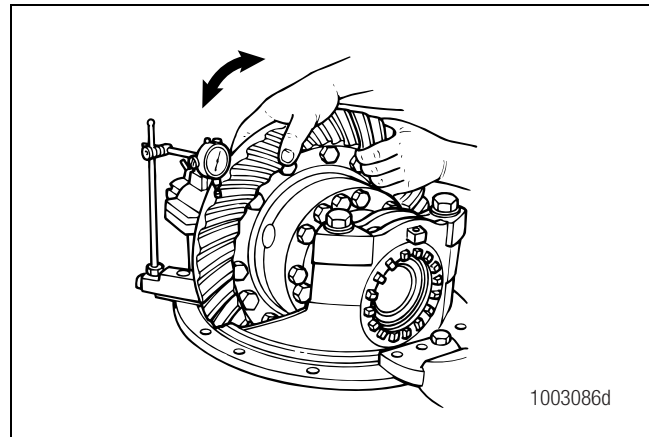

Figure 5.58
1. Attach a dial indicator onto the carrier mounting flange. Figure 5.58.